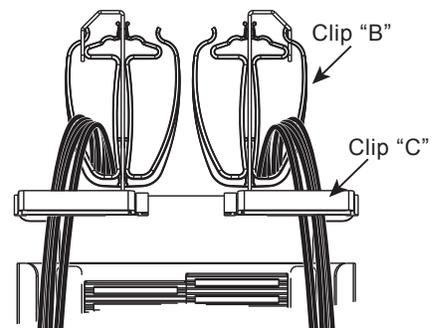

Figure 13
**Step 5:** Carefully close Clip "C" (Figure 13).